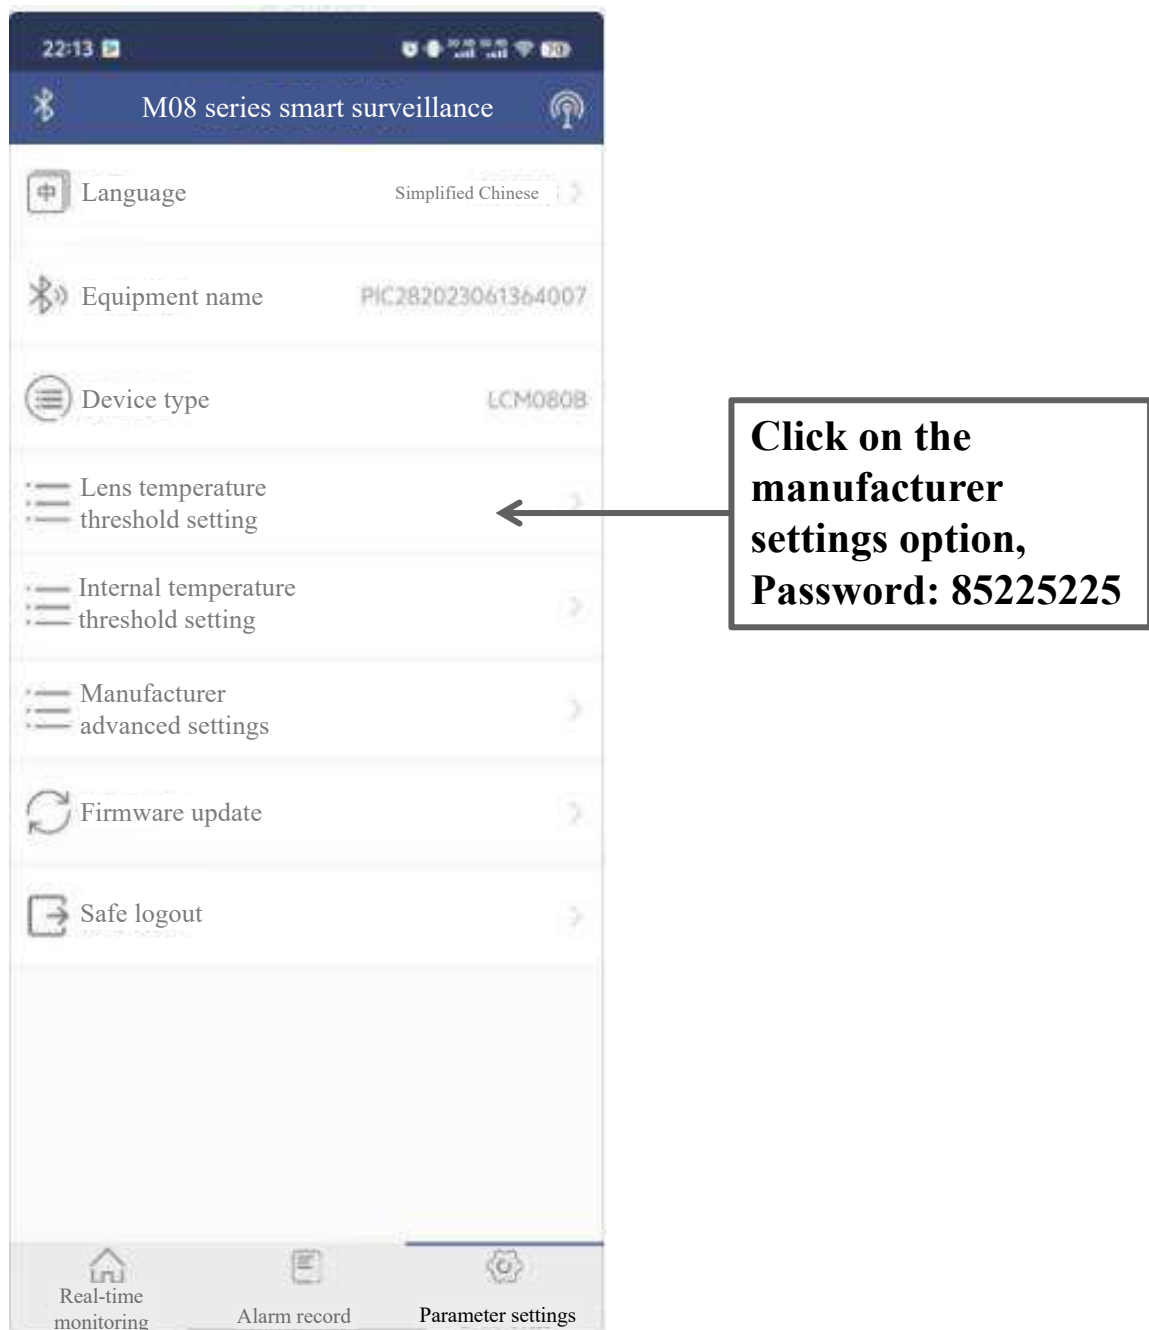

Figure 3.1
- ① This APP has temperature setting function. You can set different temperature thresholds according to actual situation . Click "Parameter Setting" and input the password "85225225" to enter the temperature settings interface, as shown in Figure. 3.1.
- ② The software can also monitor the real-time dimensions of the electronic scale, internal temperature and humidity of the cavity, cutting gas pressure, and detect any leaks in the cutting gas.